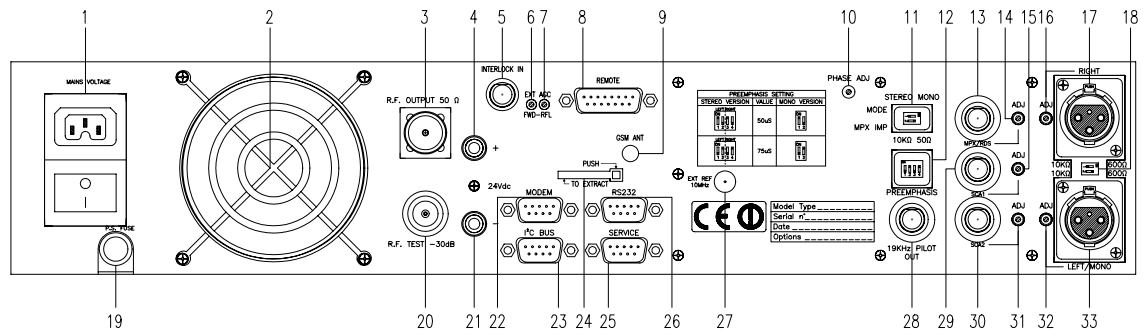

Figure 6.2
- Preemphasis (switch [6] Fig. 6.2):
- L and R (XLR type) input impedance (switch [16] Fig. 6.2):
power goes below the Power Good threshold value, the machine changes the status of a pin contained in the DB15 “Remote” connector located on the back panel (fig. 6.2 note [14]).